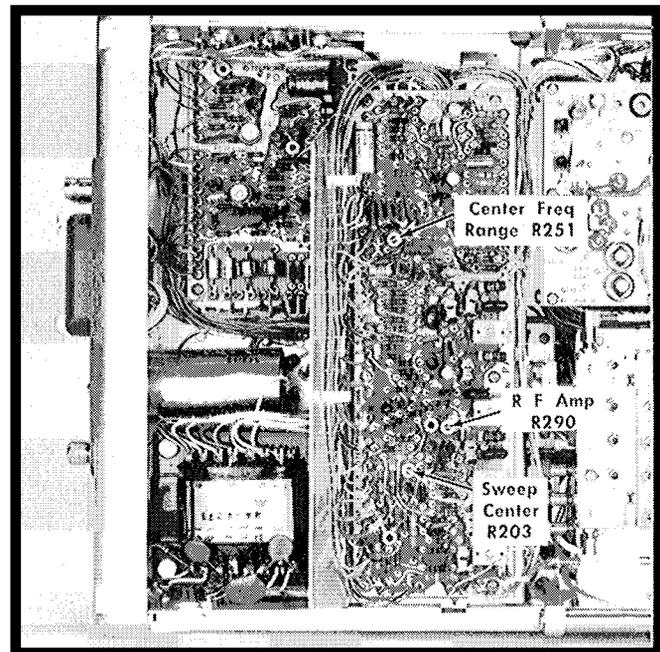

Fig. 6-18. Sweeper circuit adjustments.
e. Adjust the RF Ampl R290 (see Fig. 6-18) for  $\pm 0.85$  volts  $\pm 0.1$  volt of trace deflection on the test oscilloscope.
b. Adjust the Center Freq Range R251 (Fig. 6-18) for minimum IF signal shift as the DISPERSION selector is rotated through the 10 MHz to the .2 MHz positions. The DISPERSION RANGE switch must be in the MHz/DIV position for this adjustment.
- Adjust the Sweep Center R203 (Fig. 6-18) to position the 200 MHz signal at the graticule center horizontal line.